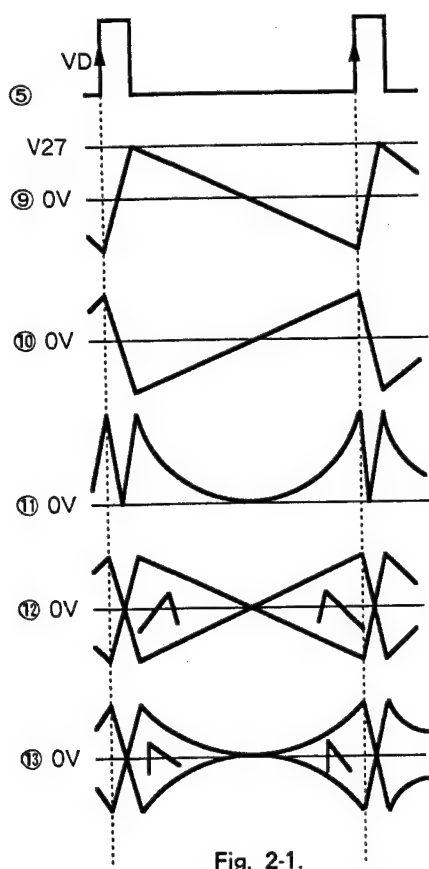

Fig. 2-1.
(1) REGISTRATION IC SECTION...When VD is input into pin ⑤ of IC201 and HD is input into pin ②④, registration waveform is created using the leading edge of the input signal as trigger (Fig. 2-1, 2-2). The peak of V. SAW, H.SAW is determined by the voltage of pin ⑦ and ②⑤ respectively. Since a parabola wave is $SAW \times SAW$, when the SAW amplitude becomes $1/2$ it becomes $1/4$. Other waveforms will become $1/4$, $1/8$ and so forth depending on how many times a multiplication is performed. Pin ③ and pin ④ outputs a rectangular waveform of $1/2H$, $1/2V$ respectively. ↗